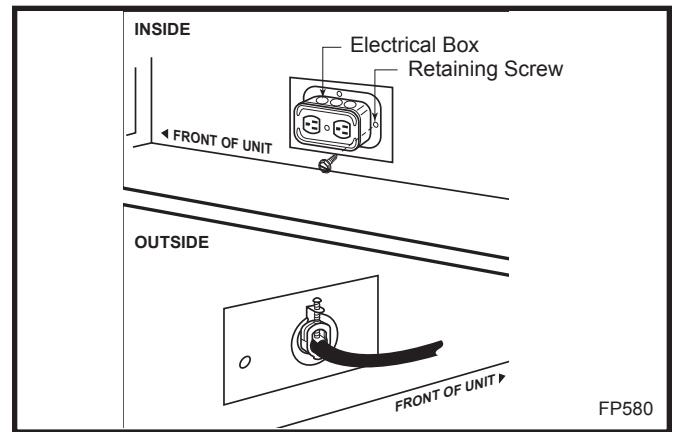

Fig. 6 EB-1 receptacle.
4. Feed the supply line in through the EB-1 opening in the side of the appliance and then through the back of the EB-1 assembly. (Fig. 6)